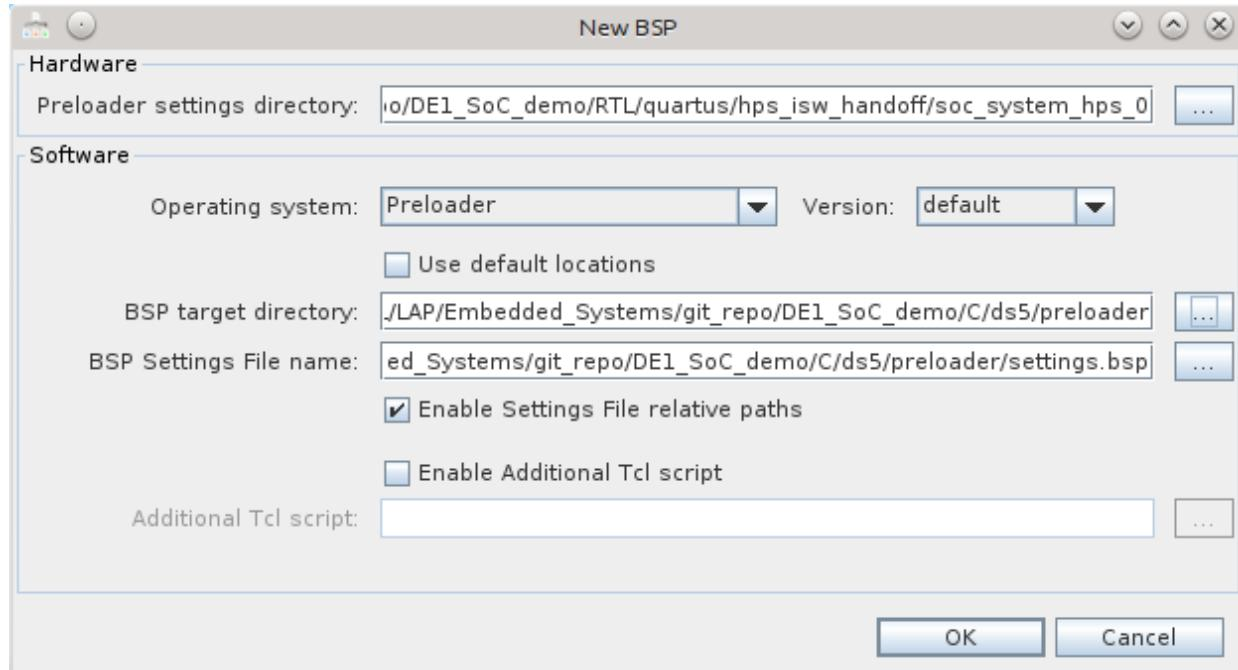

Figure 8-23. New BSP Dialog
- b. Disable the “Use default locations” checkbox and under the “BSP target directory”, select the “DE1\_SoC\_demo/C/ds5/preloader” directory. You should have something similar to Figure 8-23.